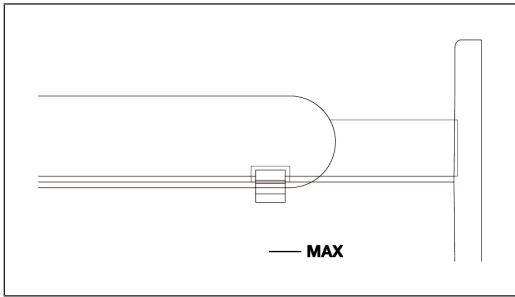

Figure 2
- The water level must be lower than the MAX mark (see figure 2). Make sure the float is high enough to activate the pump.